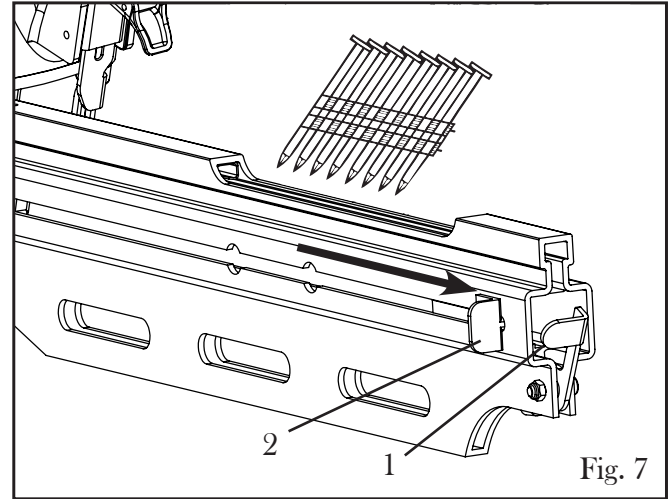
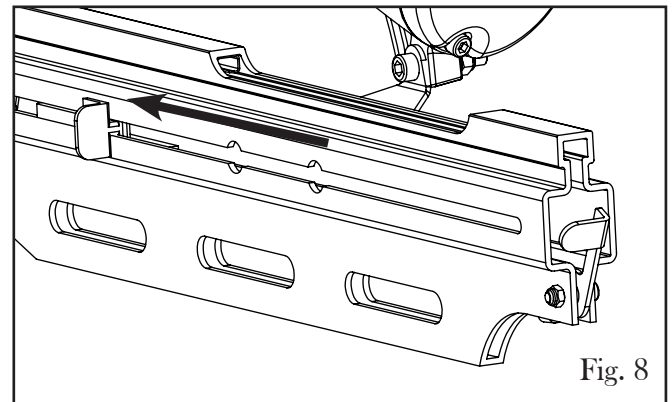

Fig. 7
Fig. 8
### LOADING THE FASTENERS (Figs. 7, 8)
1. Slide the feeder shoe (Fig. 7 - 2) all the way to the back of the magazine until it latches into place.
3. Pull the feeder shoe backwards, and press the magazine lock (Fig. 7 - 1) to release the feeder shoe. Guide the feeder shoe forward against the nails to secure them in position (Fig. 8). Check that the nails have been loaded correctly and securely.
### ADJUSTING THE DRIVING DEPTH (Fig. 7)